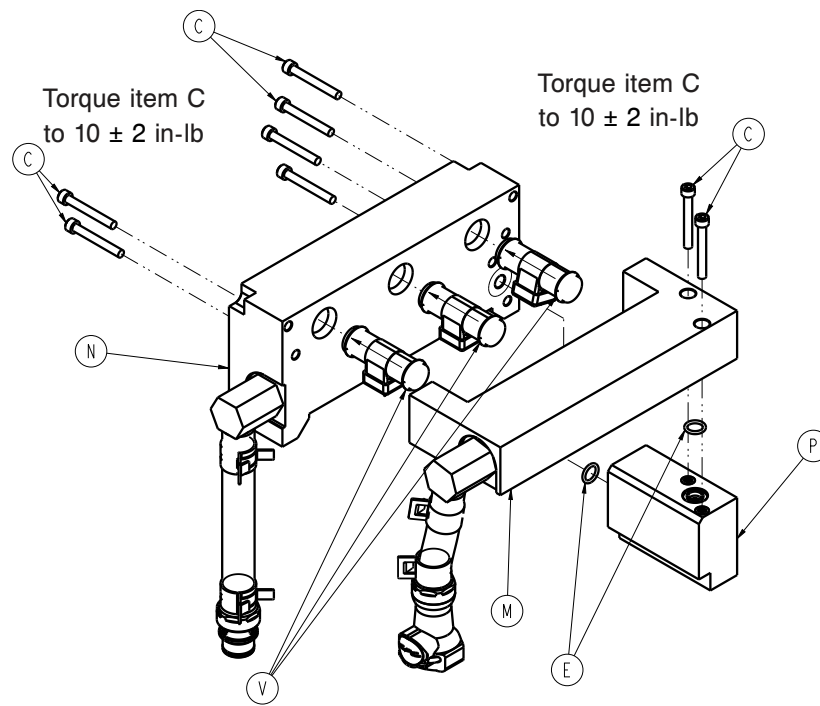

Figure 44 – Manifolds
16. Using a 7/16" socket, loosen the two nuts (D) that secure the MCB bracket to the control assembly bracket.
19. Using a 5/32 hex wrench, remove the four screws (C) that secure the return manifold assembly (N) to the supply manifold assembly (M) (Figure 44). Save the screws.